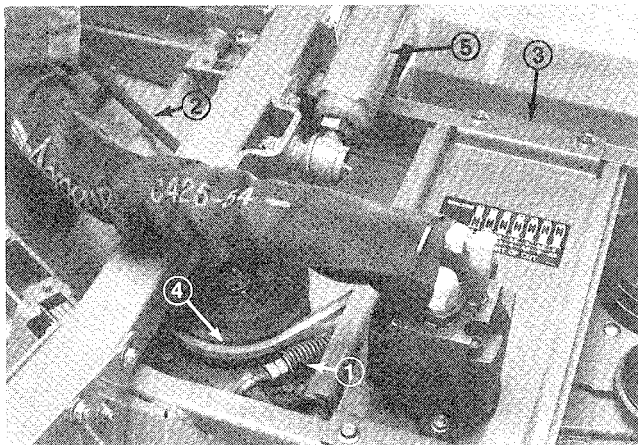
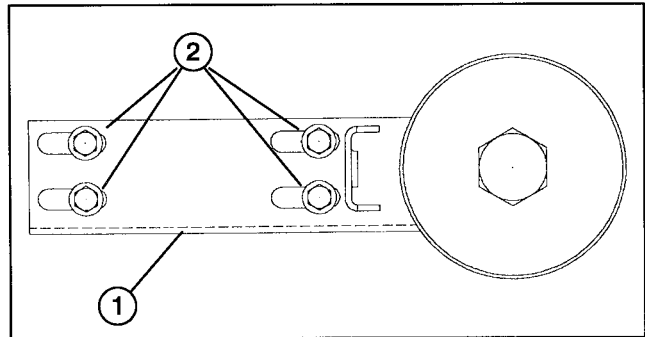
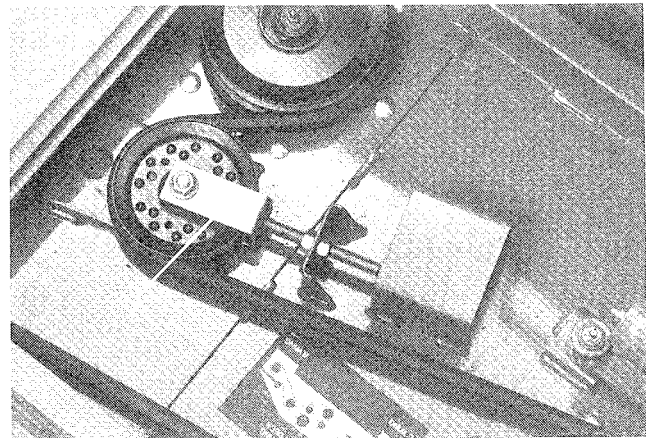

Figure 63
Figure 64
Figure 65
3. Loosen jam nuts for tension plate (Fig. 65). Adjusting tension plate changes length of the compression spring (Fig. 63). Monitor compression spring and adjust tension arm until shoulder bolts are positioned in slots as shown in figure 64.
2. Loosen jam nuts securing tension plate until compression spring on idler assembly is relaxed (Fig. 65).
4. Remove flange head screws securing gearbox plate and separate plate and drive motor assembly from the deck (Fig. 63). Be careful not to bend, twist, kink or damage flexible hydraulic lines.
2. Remove deck covers and relieve belt tension on all belts (Fig. 65).
3. Remove flange head screws securing gearbox plate and separate plate and drive motor assembly from the deck (Fig. 63). Be careful not to bend, twist, kink or damage flexible hydraulic lines.
4. Remove hex head screws and flange locknuts securing each lift arm to the castor arm and separate from the arm (Fig. 63).